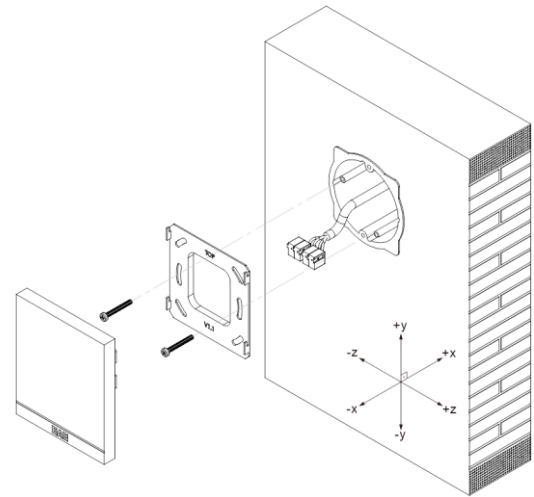

Fig. 1
- It is suggested that junction box should be parallel with the wall horizon, shown as fig.1;